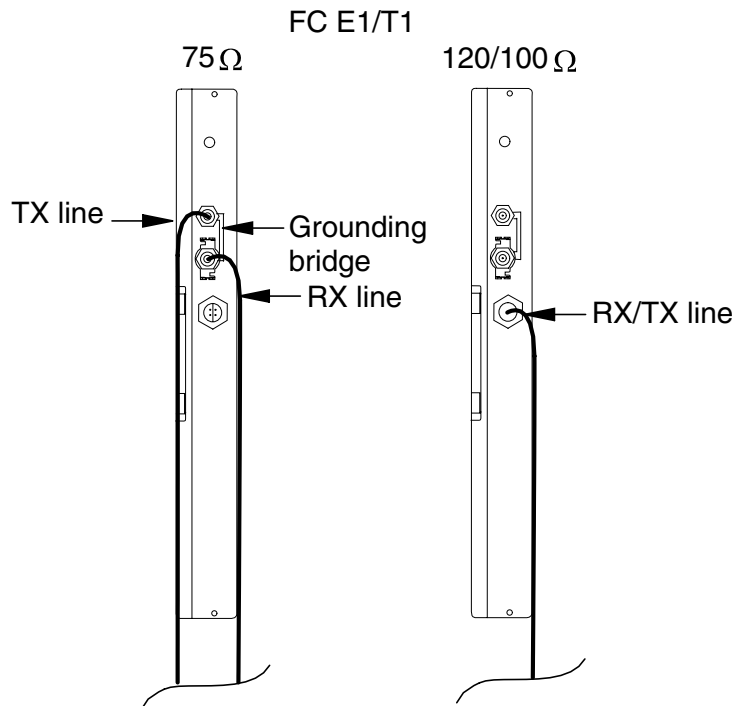

Figure 20. Cabling alternatives for the FC E1/T1 transmission unit
The 75 Ω TX and RX connectors are connected to each other with a grounding bridge (see Figure 20). If the grounding bridge is removed, the grounding of the RX connector's outer conduct changes from direct grounding to capacitive grounding.
1. If you want to remove the grounding bridge (see Figure 20), use a 10 mm hexagon socket to loosen both connectors and pull out the bridge. Re-tighten the connectors.
2. Connect the connector of the received (RX) signal line to the 75 Ω RX connector on the FC E1/T1 front panel.
3. Connect the connector of the transmitted (TX) signal line to the 75 Ω TX connector on the FC E1/T1 front panel.
- Connect the connector of TX/RX signal line to the 100/120 Ω TX/RX connector on the FC E1/T1 front panel (see Figure 20). Tighten the connector nut properly.